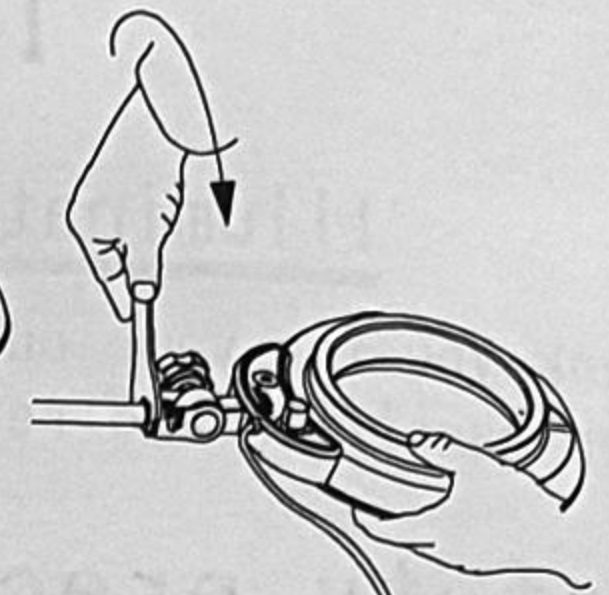

Fig.2
- ②Next, Tighten it with a bundled hexagon spanner (19 mm) like figure 2 surely. (Fig.2)